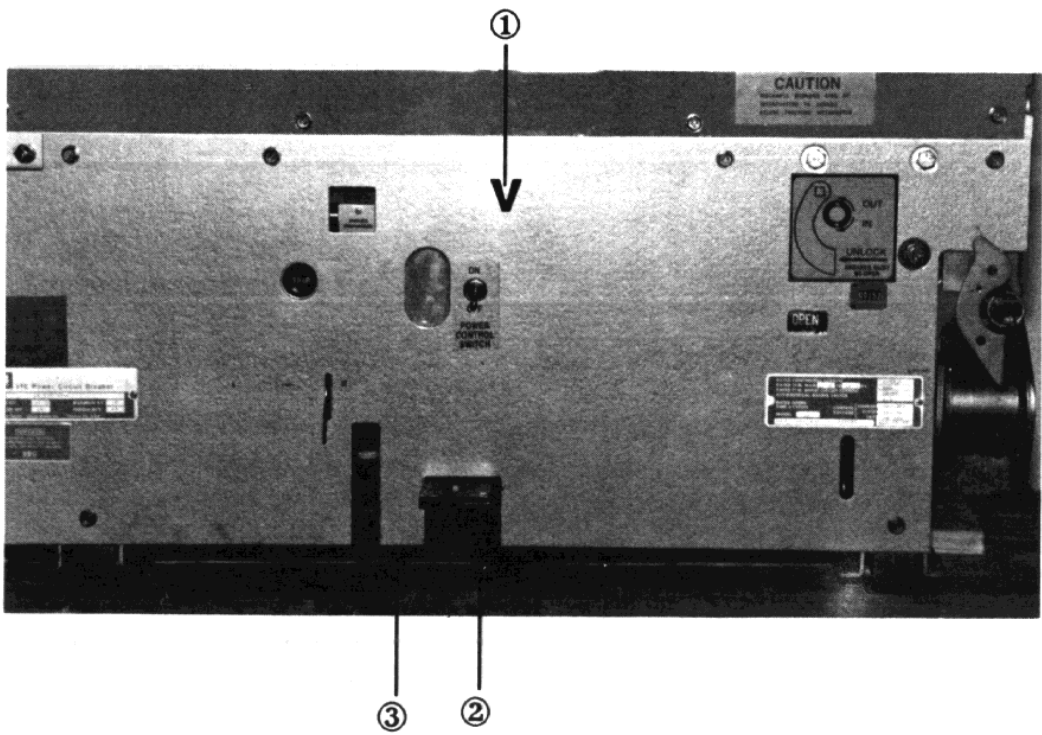
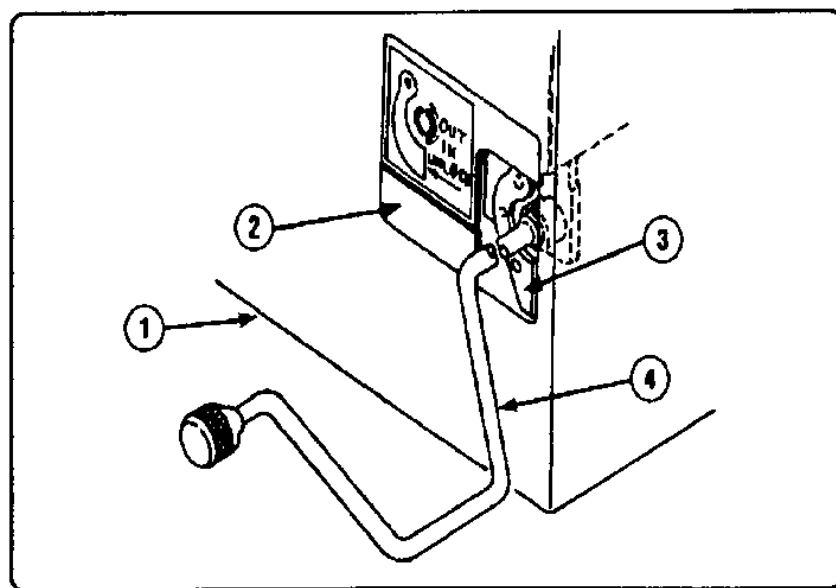

Fig. 3 - Front Circuit Breaker Panel & Accessories
Fig. 4 - Method of Racking Circuit Breaker
Installing Circuit Breaker Into Compartment (See Figs. 3&4)
Turn motor disconnect switch (1, Fig. 3) to "OFF" position.
Engage racking crank (4, Fig. 4) and push racking unlocking lever (3) to left, then rotate racking crank counterclockwise only until resistance to motion is felt (DO NOT FORCE). If closing springs were left in the "CHARGED" condition, they will automatically discharge.
For installing the circuit breaker into the lower compartment, the fifth wheel is used to position the breaker so that it is lined up with the switchgear. Engage the fifth wheel with hole (2 Fig. 3). The lift device is required to lift and position the breaker for installation into the upper compartment. Guide and push circuit breaker into compartment until stopped. Again engage racking crank and rotate clockwise until racking mechanism automatically stops at "DISCONNECT" position. (Breaker is now held captive in compartment.)
To rack circuit breaker to "TEST" position, push racking unlocking lever (3, Fig. 4) to left, rotate racking crank approximately 1/4 turn clockwise, then release unlocking lever. Continue cranking until racking mechanism automatically stops at "TEST" position. With the circuit breaker racked to "TEST" position, it should be checked for proper operation by operating all possible means of opening and closing, this includes control switches, relays, etc. Turn motor disconnect switch (1, Fig. 3) to "ON" position to charge the closing springs, and operate the breaker as required.
When racking circuit breaker to "CONNECTED" position, close compartment door (1, Fig. 4) and insert racking crank (4, Fig. 4) through sliding panel (2, Fig. 4).
Push unlocking lever (3, Fig. 4) to left and turn racking crank (4, Fig. 4) approximately 1/4 turn clockwise, then release unlocking lever. Continue cranking until racking mechanism automatically stops at "CONNECTED" position.
CIRCUIT BREAKER REMOVAL (See Fig. 4)
2. Fully closed breaker (See Fig. 3). Charge the closing springs and turn the motor switch (1) off. Close the breaker. Engage manual charge handle with charging lever.